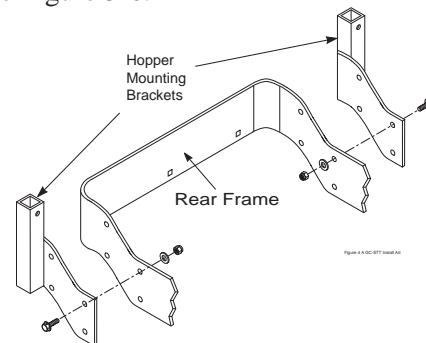

FIGURE 3-6
12. Install the hopper mounting brackets to the outside of the frame on the rear of the machine. See Figure 3-6.